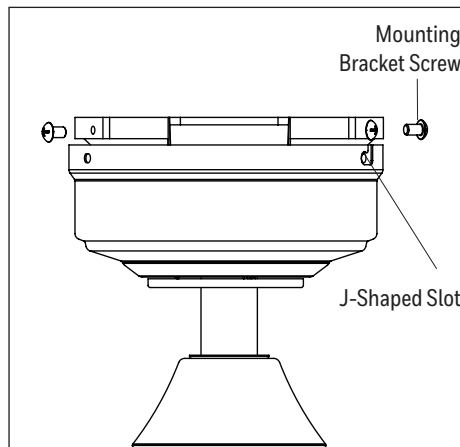

Figure 5.2
2. Raise the canopy, ensure the two mounting bracket screws are aligned with the J-shaped slots in the canopy. Then turn the canopy in a clockwise direction until the mounting bracket screws are completely engaged in the J-shaped slots. Install the two previously removed mounting bracket screws in the round holes. Securely tighten all mounting bracket screws (Figure 5.2).